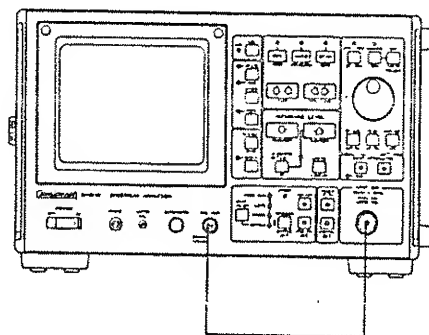

Figure 11-7 Residual FM Test Setup
- ② Connect the spectrum analyzer CAL OUT connector and the INPUT connector with the supplied cable as shown in Figure 11-7.